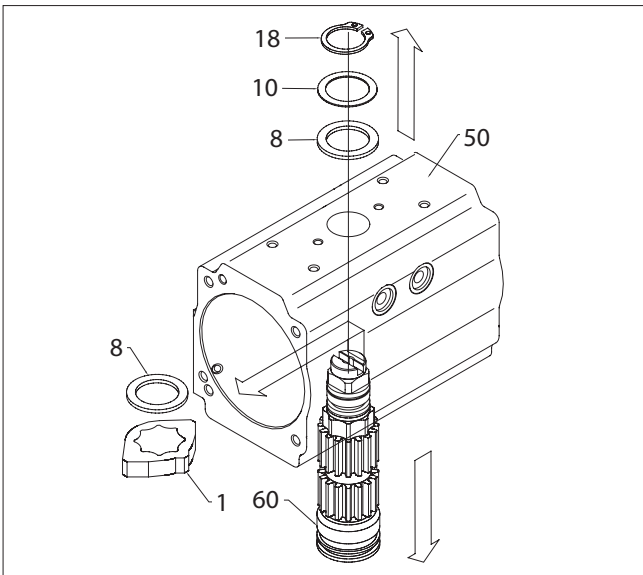

Figure 7.
5. Drive Shaft (60) and Bearing (6, 7) Disassembly, (Figure 7):
- A. Remove spring clip (18) carefully. Remove external thrust bearing (8) and thrust washer (10).
- B. Apply downward force to top of drive shaft (60) until it is partially out of the bottom of the body (50) and the octi-cam (1) and internal thrust bearing (8) can be removed. Remove the octi-cam (1) and internal thrust bearing (8). Push the drive shaft (60) completely out of the bottom of the body (50). If the shaft (60) does not move freely, gently tap with a plastic mallet.